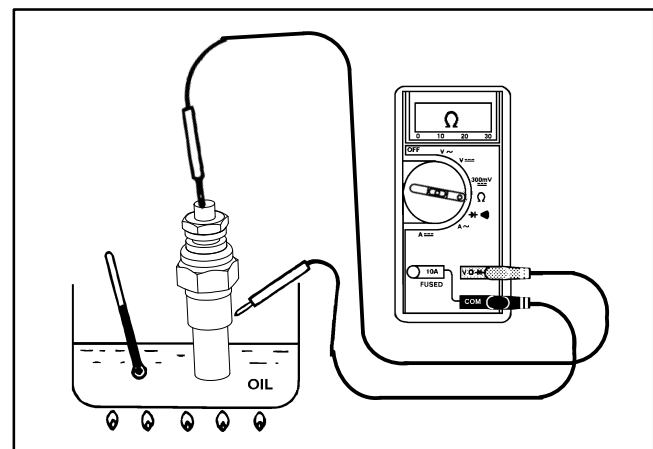

Figure 36
4. Put switch in a container of oil with a thermometer and slowly heat the oil (Fig. 36).